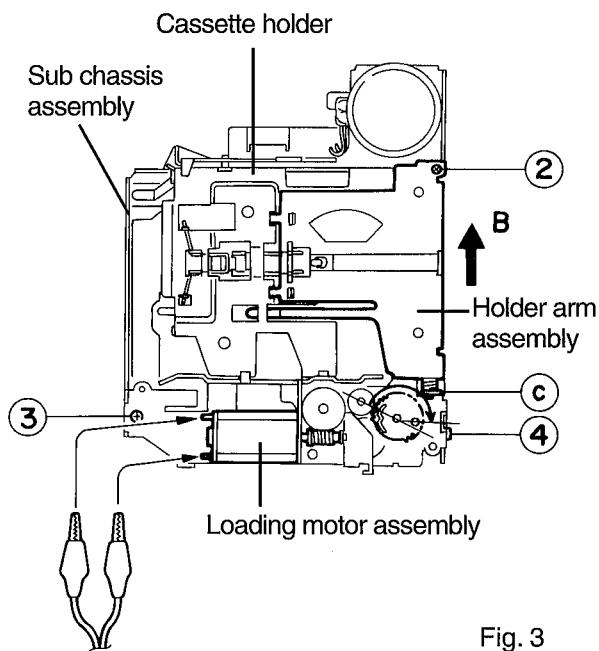

Fig. 3
### ■ Removing the Cassette Holder and Holder Arm Assembly ( See Fig. 3 )
3. Apply DC 6V to the lead wire of the loading motor assembly and turn the load gear assembly to the position shown in Fig. 3.
4. Remove the screw ② securing the cassette holder and holder arm assembly.
5. Shift the cassette holder and the holder arm assembly in the direction shown by the arrow "B" and remove them from the interlocking section ④ of the sub chassis assembly.
### ■ Removing the Sub Chassis Assembly ( See Fig. 3 )